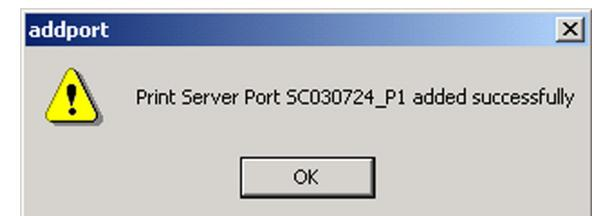

Figure 5-9: Added Successfully
- You will be informed that the PrintServer Port has been added successfully. (Figure 5-9.) Click **OK**.